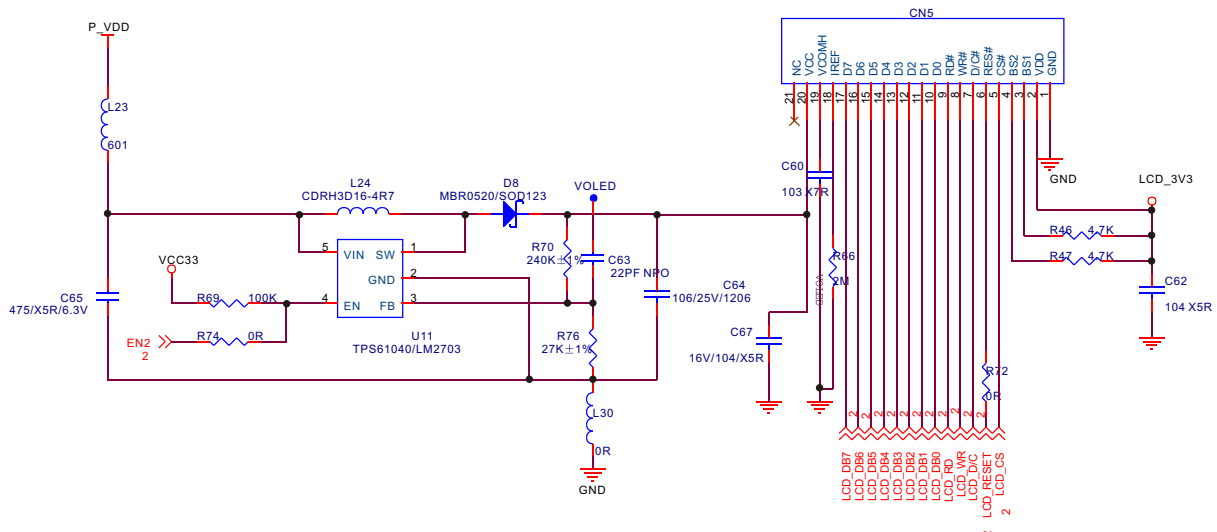

Figure 3.2.3.1 OLED circuit schematic diagram
1. OLED module circuit is shown in the figure 3.2.3.1: